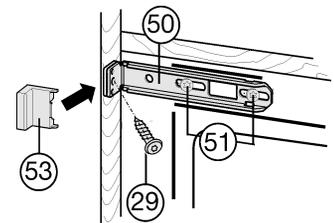

Fig. 16
- ▶ Loosen the screws *Fig. 16 (51)* a little.
- ▶ Tightly screw the top mounting bracket *Fig. 16 (50)* to the unit wall using Spax screw *Fig. 16 (29)*  $\varnothing 4 \times 19$ .
- ▶ Break off the projecting end of the cover *Fig. 16 (53)*.
- ▶ Tighten the screws *Fig. 16 (51)*.
- ▶ Put on the cover *Fig. 16 (53)*.